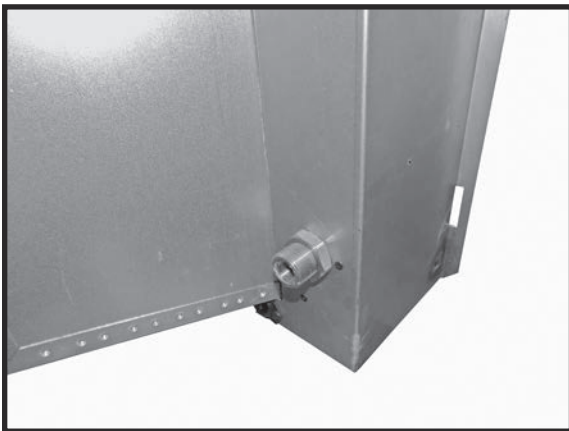

Figure 36: Tofino gas connection.
- Gas supply line connection is located on the left rear side of the insert (Figure 36). Gas connection accepts a 3/8" N.P.T. fitting. Correct gas line diameter must be used to assure proper operation and pressure. **Do not use external threads for gas connections. Use internal threads only.**